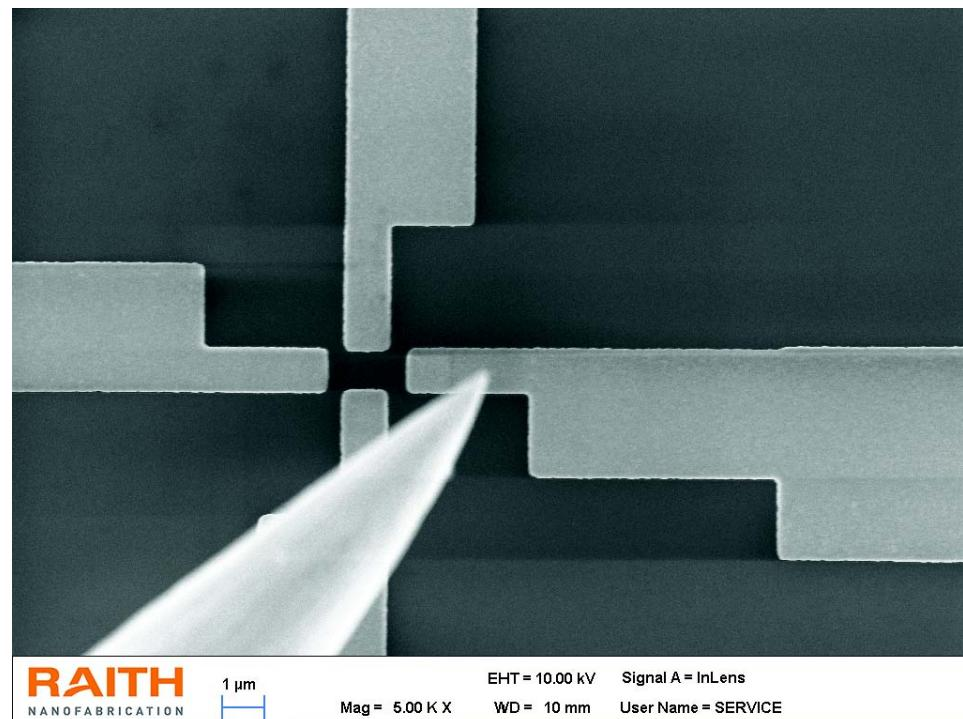

Figure 22-6: Approach process STEP 2b: Image of 1st approach. Focus on sample, WD at 10 mm (Magn. 5 000x)
- ▶ Set the focus on the sample (⇒ Figure 22-6 on page 22-10).